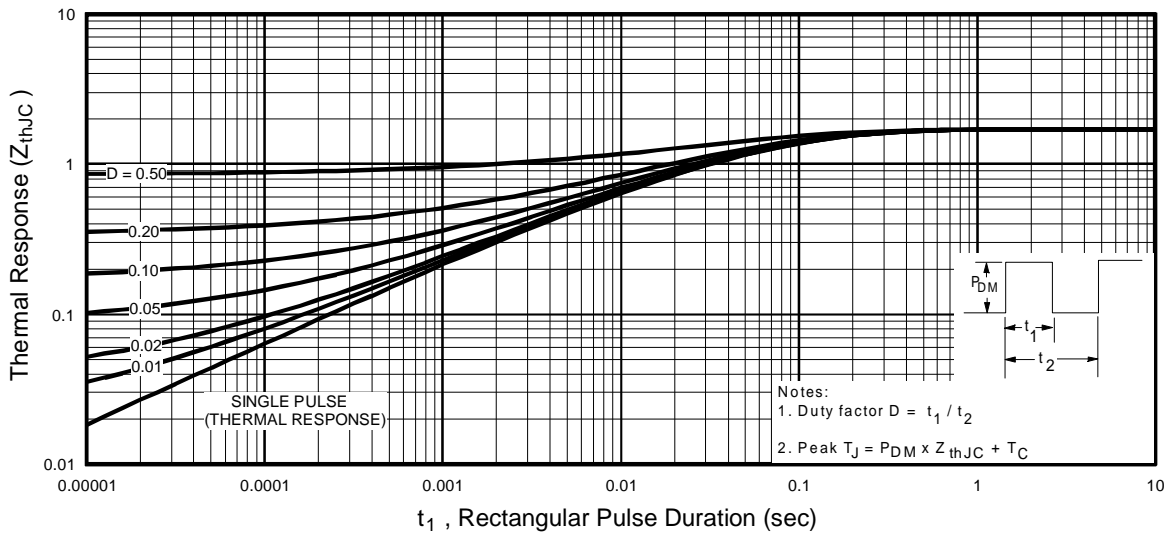

Fig 11. Maximum Effective Transient Thermal Impedance, Junction-to-Case
① Repetitive rating; pulse width limited by max. junction temperature. (See fig. 11)
③ $I_{SD} \leq 9.0A, di/dt \leq 120A/\mu s, V_{DD} \leq V_{(BR)DSS}, T_J \leq 150^\circ\text{C}$